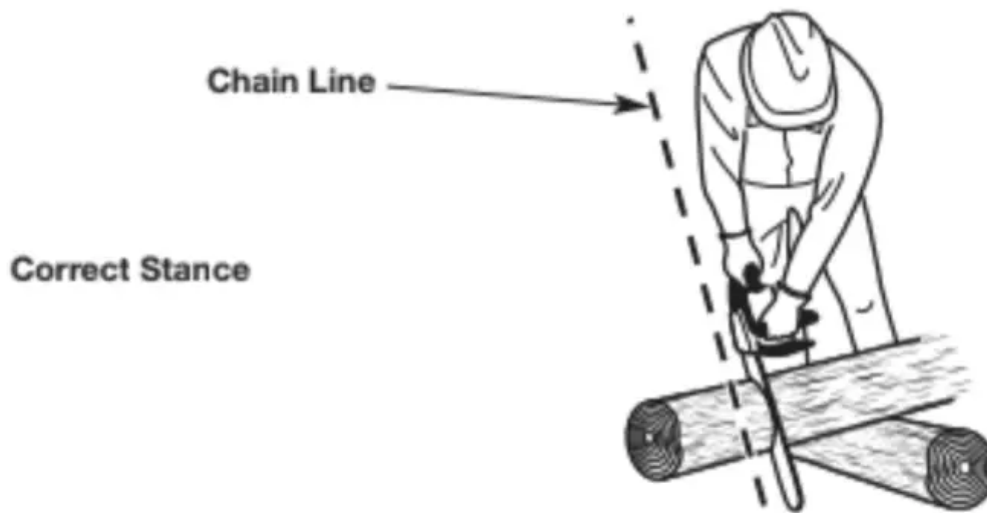

Fig. 8
**WARNING:** Always use the hand placements specified below whether the operator is left-handed or right-handed. This will help keep the operator slightly to the left of the unit and out of the direct line of the saw chain if kickback occurs (Fig. 8 and Fig. 9). Always keep all body parts to the left of the chain line.